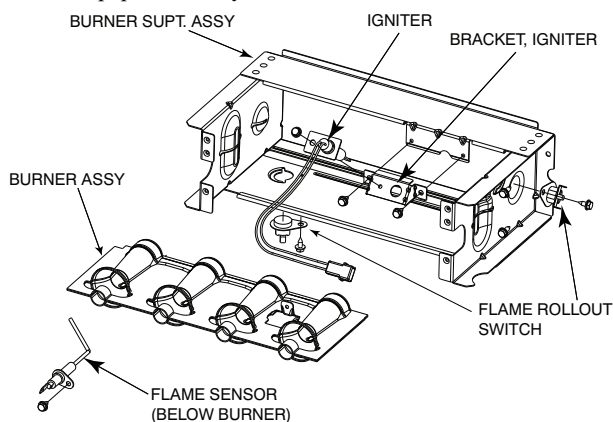
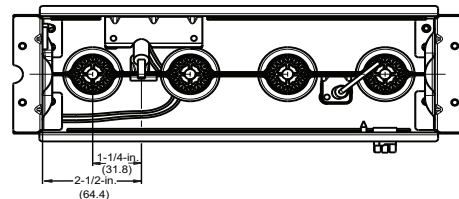
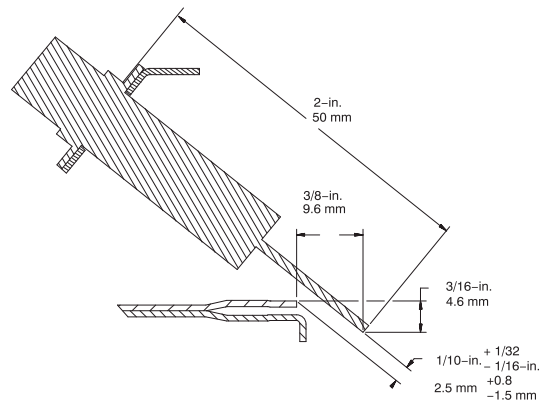

Fig. 63 – Burner Assembly
Fig. 64 – Igniter Position - Top View
Fig. 65 – Igniter Position - Side View
Refer to Fig. 63.
8. Check the igniter alignment. See Fig. 63, Fig. 64, and Fig. 65.
The igniter does **NOT** require annual inspection. Check igniter resistance before removal. Refer to Fig. 63, Fig. 64, and Fig. 65.
- a. Using a 1/4-in. driver, remove the two screws securing the igniter mounting bracket to the burner assembly See Fig. 63.
6. To replace igniter and bracket assembly, reverse items 5a through 5d.
7. Reconnect igniter harness to the igniter, dressing the igniter wires to ensure there is no tension on the igniter itself. See Fig. 63.